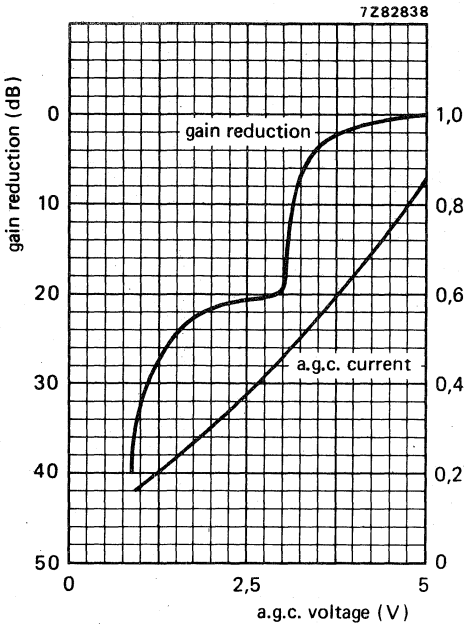

Fig. 4.
A.G.C. voltage (Fig. 4), at nominal gain + 5,0 \pm 0,2 V
A.G.C. current (Fig. 4)